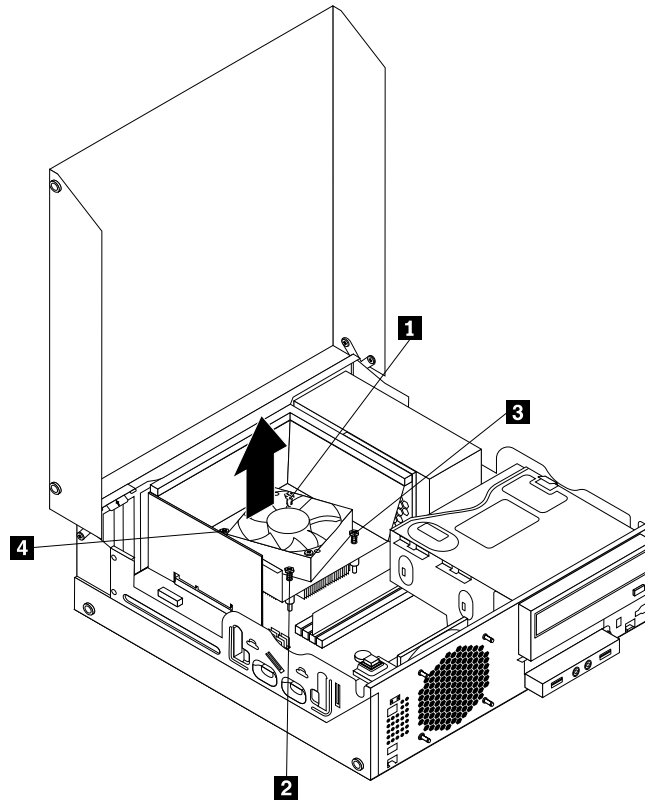

Figure 33. Screws that secure the heat sink and fan assembly
- Follow this sequence to install the four screws to secure the new heat sink and fan assembly, as shown in Figure 33 “Screws that secure the heat sink and fan assembly” on page 50: